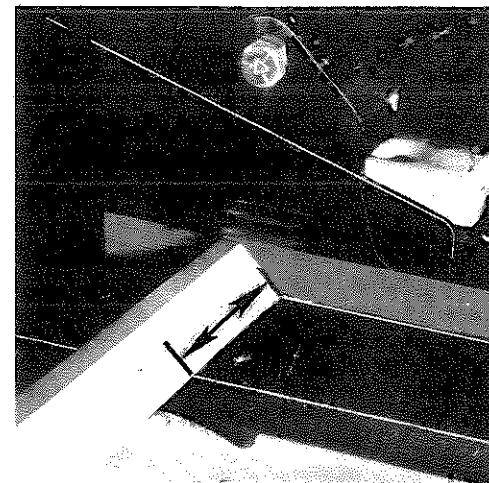

Fig. 12
The distance from the slide bar to the outside edge of the track should be the same on both sides. Measure at front and rear as shown in Fig. 12 (A).
Track alignment should be checked periodically to make sure that the track is centered and running evenly Fig. 12. To check, support the rear of the machine off the ground, start the engine and accelerate slightly to rotate the track several times. If track runs to the right, tighten the right track tension bolt, if the track runs to the left, tighten the left track tension bolt. Start engine and run track, recheck and readjust if necessary.